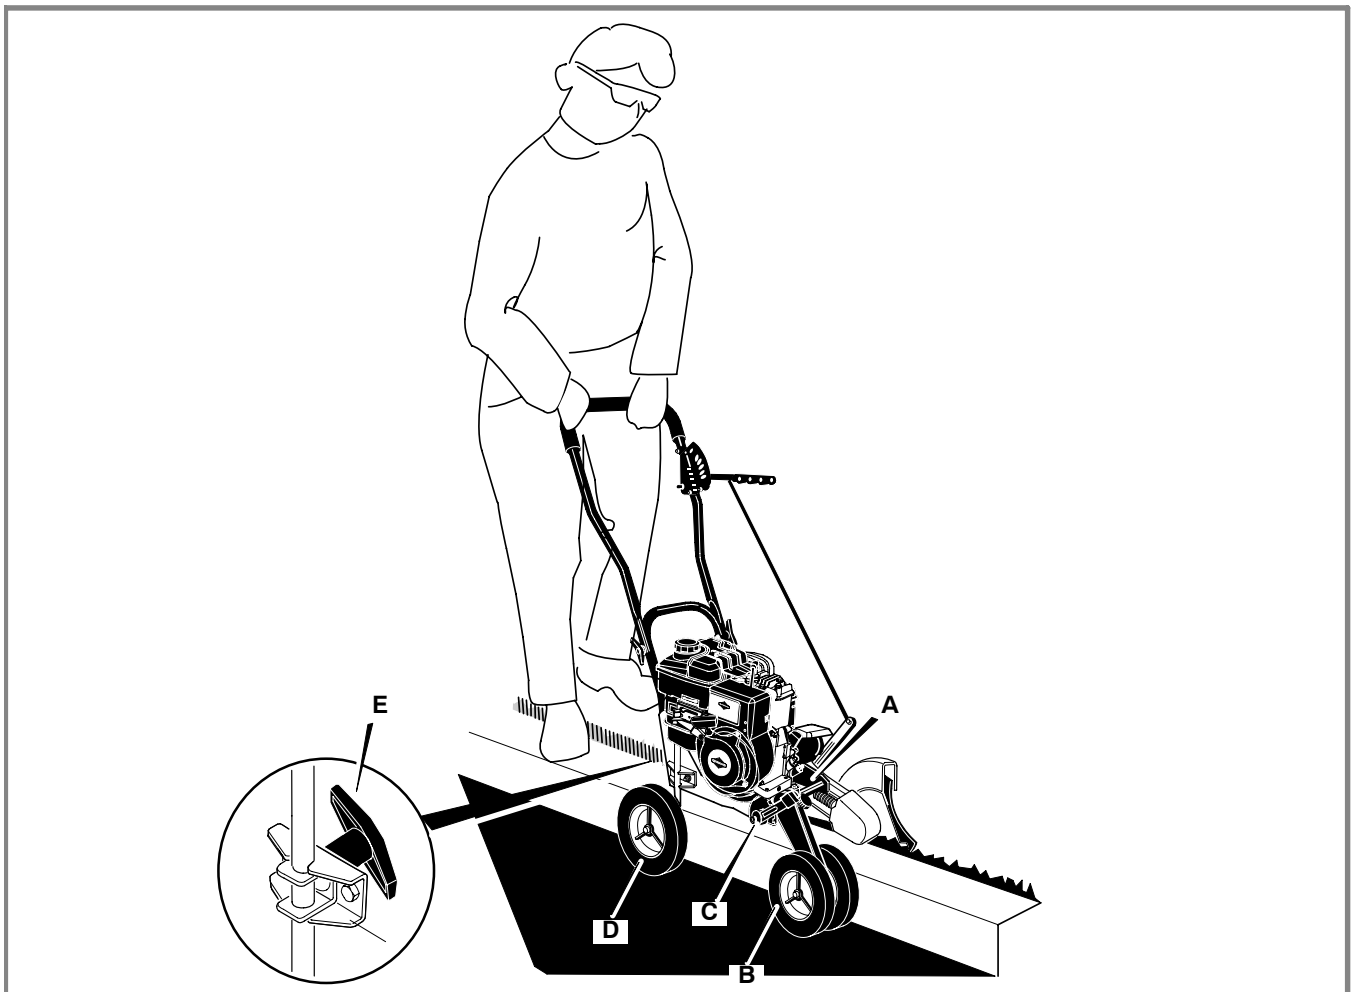

Figure 21: Curb-Hopping Feature
Because the front wheel and the right rear wheel are adjustable, the edger can be used on uneven surfaces, such as the curb shown in Figure 21.
- 3 Set the entire unit on the curb level. Loosen the front wheel knob (A). See Figure 21.
- 4 Slide the front wheel (B) all the way to the right and tighten the front wheel knob.
- 5 Use the curb height adjust lever (C) to lower the front wheel. Lower the front wheel until the front wheel is level with the left rear wheel.
- 6 Position the unit so that both the right rear wheel (D) and the front wheel are off to the side of the curb and the left rear wheel is on the curb as shown in Figure 21.
- 7 Loosen the rear wheel knob (E) to lower the right rear wheel to the pavement. Tighten the rear wheel knob.